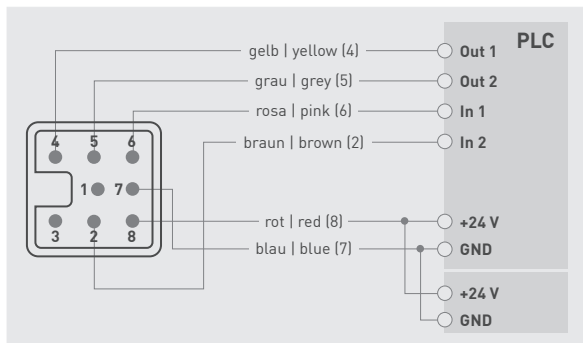

Fig. 10-4 Circuit diagram for direct connection to a PLC
- **Connection to terminal “GND” is imperative for direct connection to a PLC (Fig. 10-4)!**